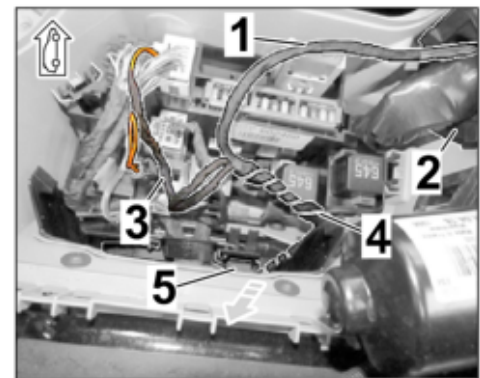

Figure 24
2.4.5 Carefully guide wire harness for engine noise control unit/pulse sender through the new opening (sleeve) into the fuse box (E-box) (⇒ Figure 24).